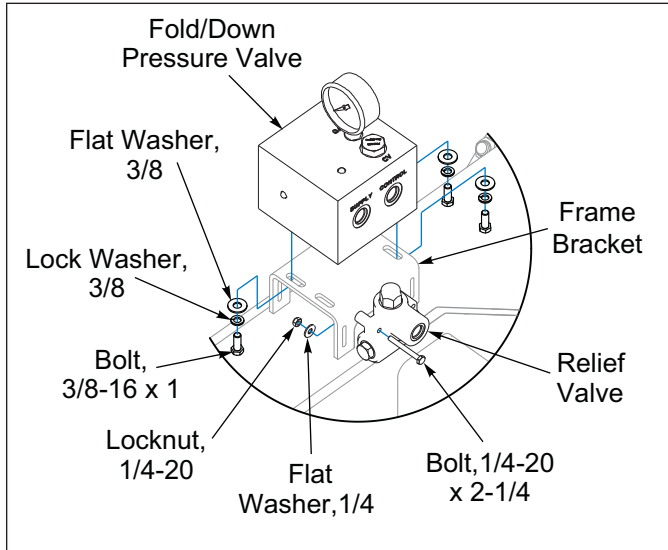

Figure 2-19: Fold/Down Pressure and Relief Valves
1. Attach Fold/Down Pressure Valve to Frame Bracket with 3/8-16 x 1 Bolts, Flat and Lock Washers and attach Relief Valve to Frame Bracket with a 1/4-20 x 2-1/4 Bolts, Flat Washers and Locknuts. **See Figure 2-19.**